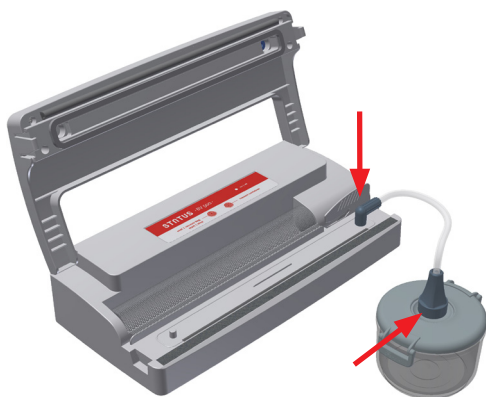

Figure 8: Vacuum packing using containers.
- Insert the opening of the Accessory Hose into the Accessory Port (see Figure 8) on the right side of the Vacuum Compartment.